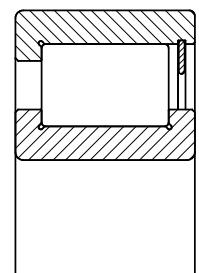

Fig. 2.9
**Full complement cylindrical roller bearings** (fig. 2.9) are cageless bearings designed to accommodate maximum radial load capacity.